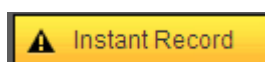

Figure 4-7
- Section 4: Instant record button. Click it, the button becomes yellow and system begins manual record. See Figure 4-7. Click it again, system restores previous record mode.